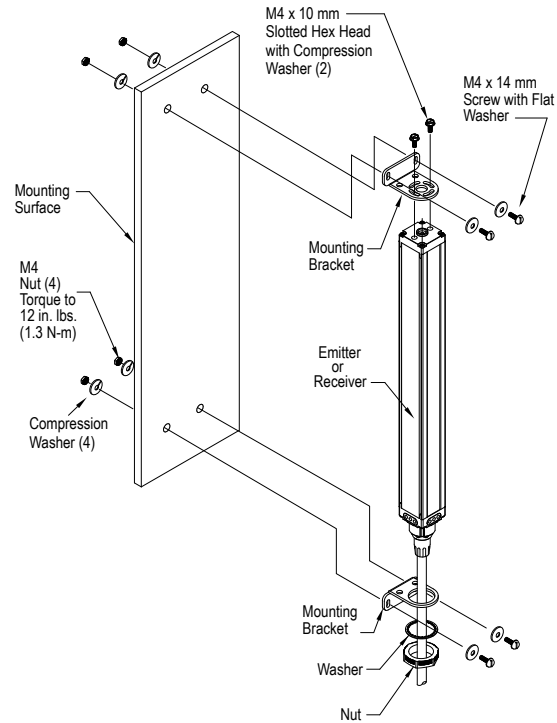

Figure 3. MINI-ARRAY emitter and receiver mounting hardware
1. Mount the emitter and receiver in their mounting brackets (see Figure 3 on page 8).